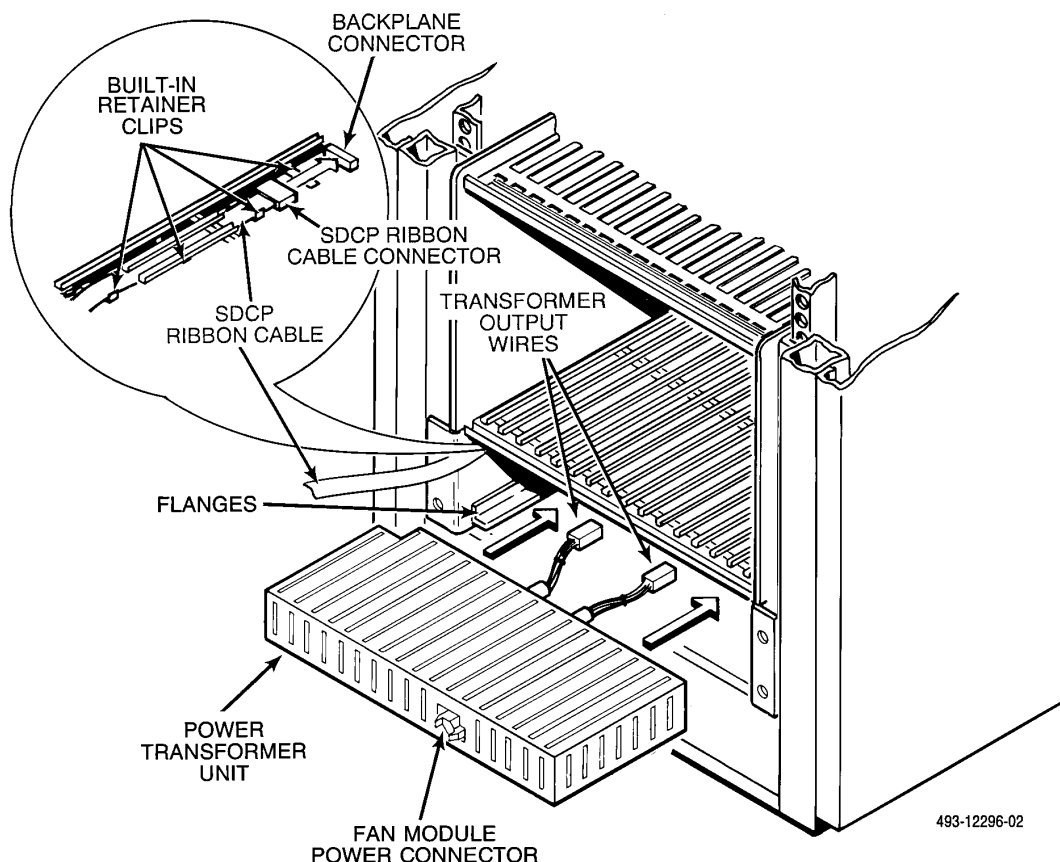

Figure 3-6. Power Transformer Unit Installation
3. At the front of the carrier (Figure 3-6), slide the fan module straight out and set it aside.
2. At the front of the carrier, place the power transformer unit on the flanges at the bottom of the carrier (Figure 3-6). Slide the power transformer unit into place against the rear rail of the enclosure, guiding the transformer output wires through the opening in the backplane.